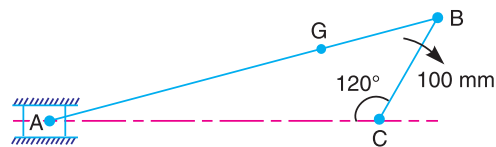

Fig. 8.5
**Example 8.2.** An engine mechanism is shown in Fig. 8.5. The crank  $CB = 100 \text{ mm}$  and the connecting rod  $BA = 300 \text{ mm}$  with centre of gravity  $G$ ,  $100 \text{ mm}$  from  $B$ . In the position shown, the crankshaft has a speed of  $75 \text{ rad/s}$  and an angular acceleration of  $1200 \text{ rad/s}^2$ . Find: **1.** velocity of  $G$  and angular velocity of  $AB$ , and **2.** acceleration of  $G$  and angular acceleration of  $AB$ .